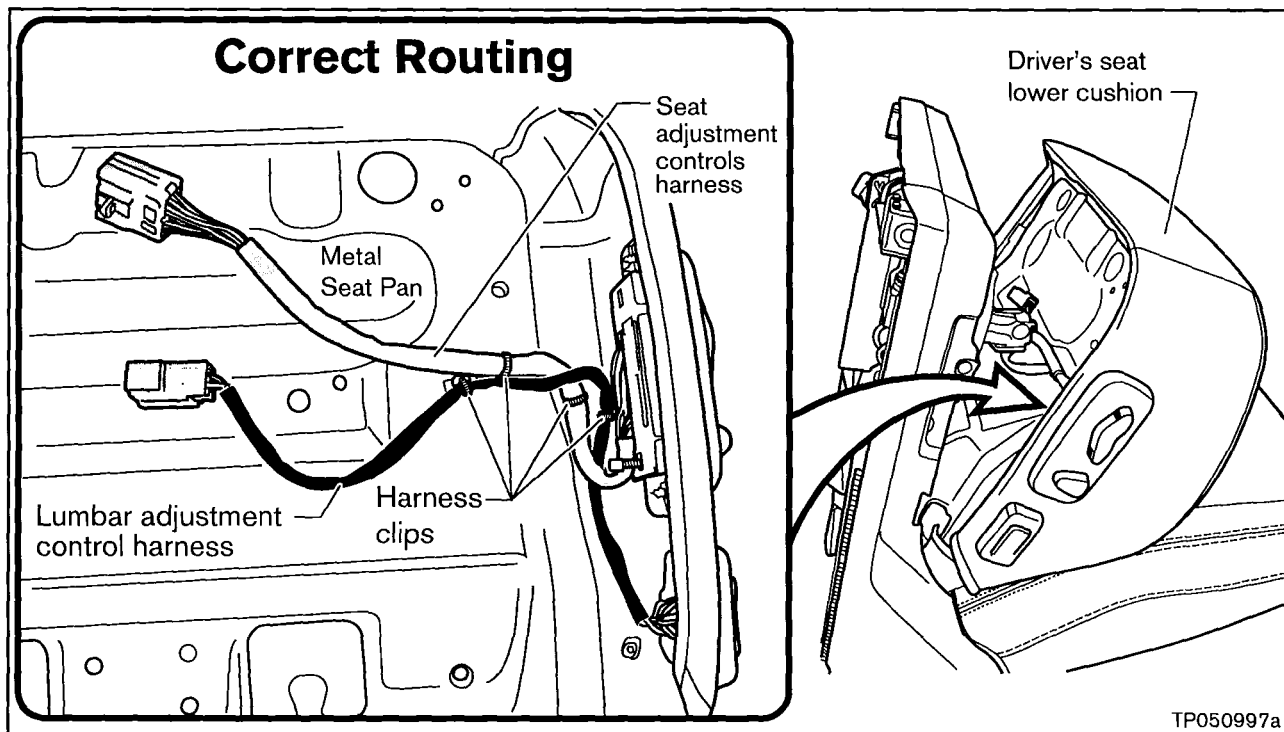

Figure 12
8. Correctly route and secure the seat adjustment controls harness and the lumbar adjustment control harness as shown in Figure 12.